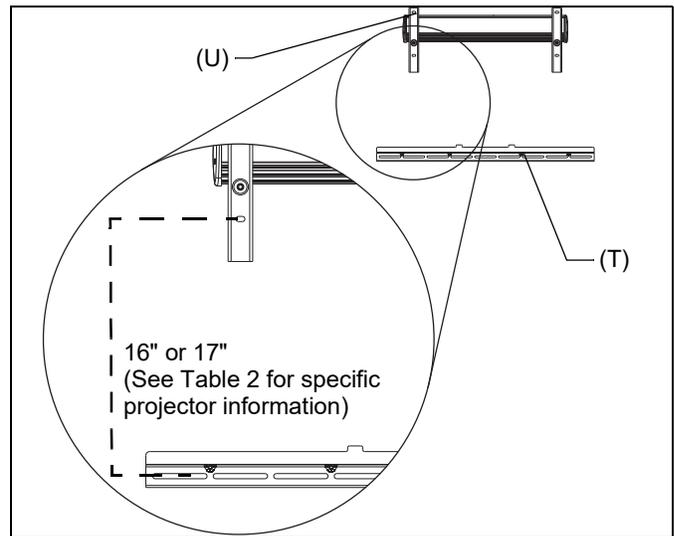

Figure 5
**IMPORTANT ! :** The distance between the screen mounting bracket (T) lower mounting holes and the projector mount wall bracket (U) mounting holes varies, and is dependent upon whether the projector is a lamp model or laser model. See Installation Template and (See Figure 5).